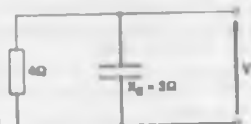

Figure 16.17
- The magnitude of the impedance of the circuit shown in Fig. 16.17 is: